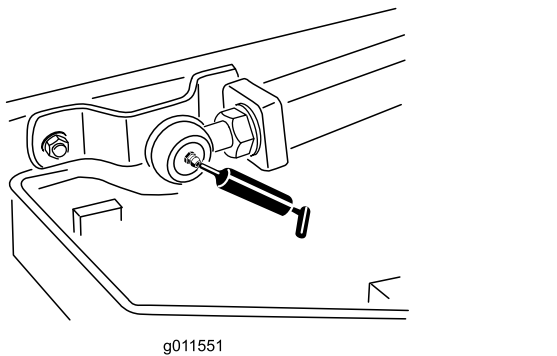

Figure 64
- Lift arm ball joints (2) (Figure 64)